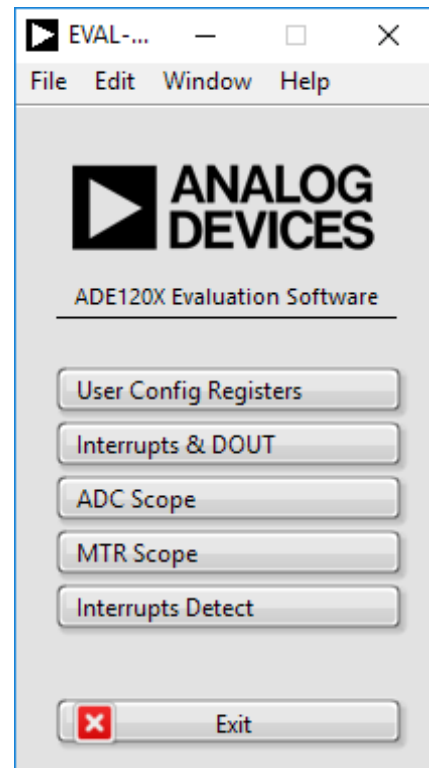
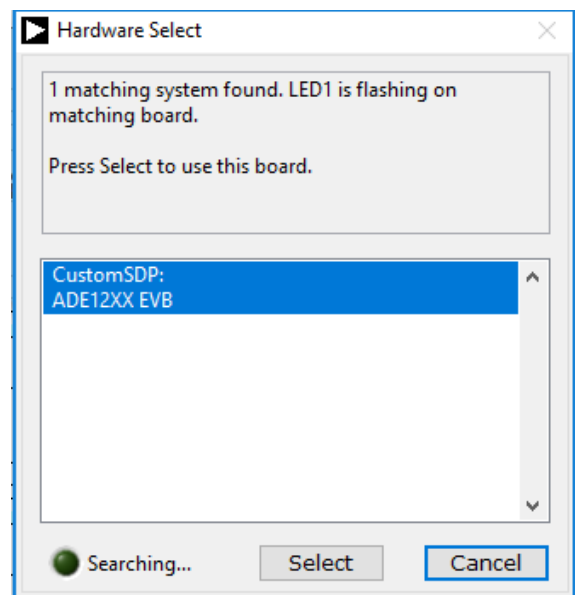

Figure 3. Main Window of the Evaluation Software
Figure 4. Hardware Select Window
When the software executable opens, the main window of the evaluation software appears, as shown in Figure 3. When the main window opens for the first time, the evaluation software prompts the user to select the matching hardware, as shown in Figure 4. Then, click Select to proceed.
The main window (see Figure 3) consists of five options to evaluate a particular functionality of the ADE1202. The five options available for evaluation include the following:
2. When the window shown in Figure 4 appears, check if the LED on the **SDP-B** board is flashing. If the LED is flashing, click **Select**.